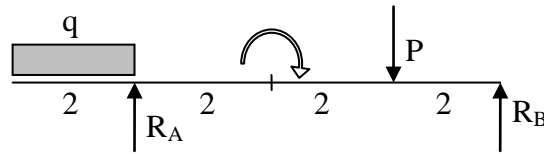

Fig. 5.10 Loadings applied to the beam
3. In the next characteristic points there are point loads: upward force of reaction, point moment clockwise (bottom fibers in tension), downward point force and upward point force of reaction, Fig. 5.10. There is no point force applied with point moment because lines are parallel (lack of bend).